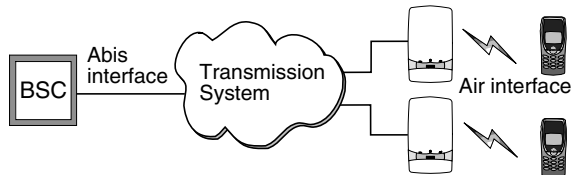

Figure 1. Base Station system
- Figure 1. Base Station system **9**
In general terms, base stations perform the radio function for the Base Station System (BSS). A Base Transceiver Station (BTS - Nokia InSite Base Station, for example) can be connected to a transmission node (Nokia InHub Data Service Unit, for example) via HDSL/E1, and to Mobile Stations (MS) via the Air interface (see Figure 1). The BSC is further connected to the Mobile Switching Centre (MSC) and to the Network Management System (NMS).